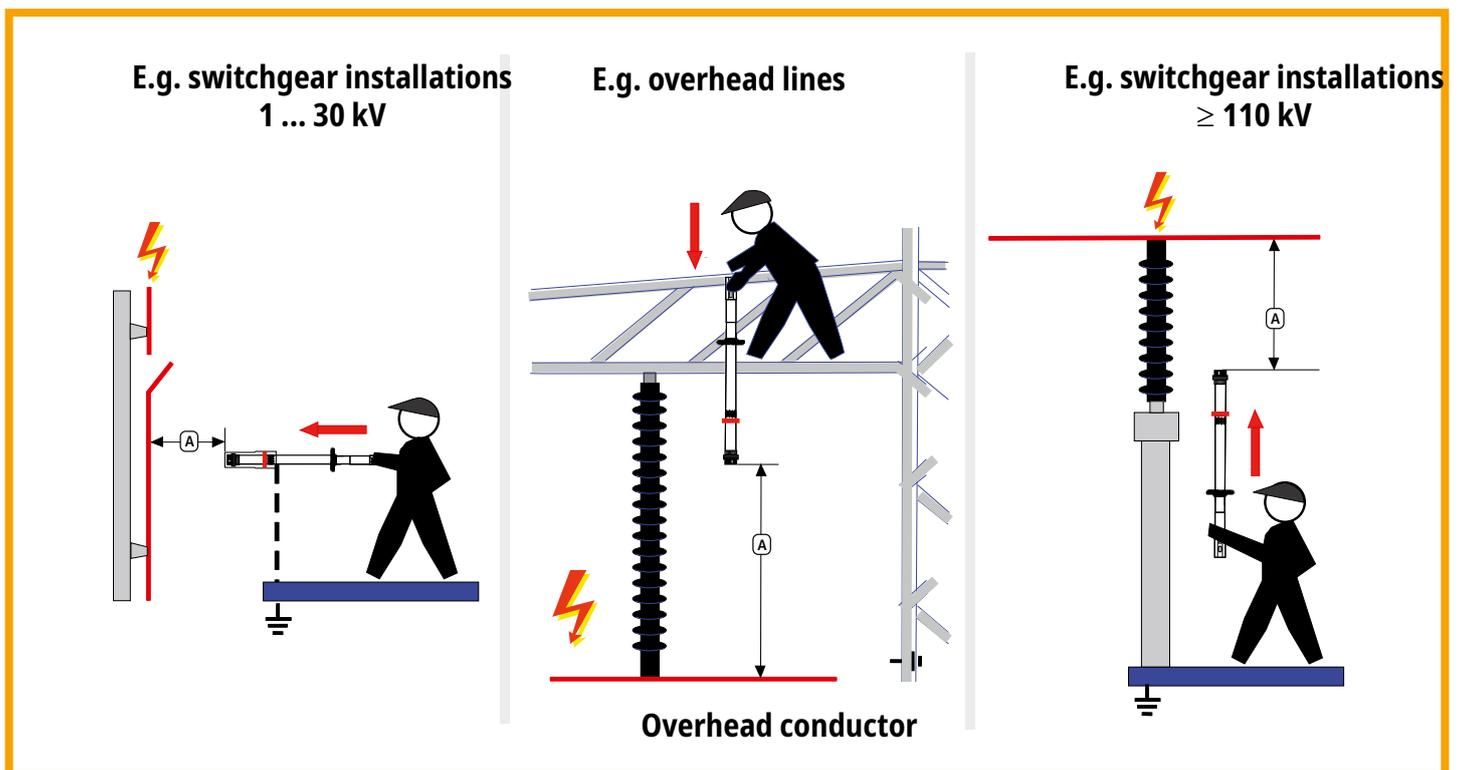

Bild 7 Sample applications as per Table 2
- The part of the installation to be tested for its voltage state is to be approached with the operating head (Figure 7).